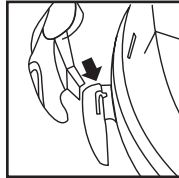

FIGURE 9
9. Place "J" shaped tabs into the slots on cord wraps. **FIGURE 9**. Press down until tabs snap into place.